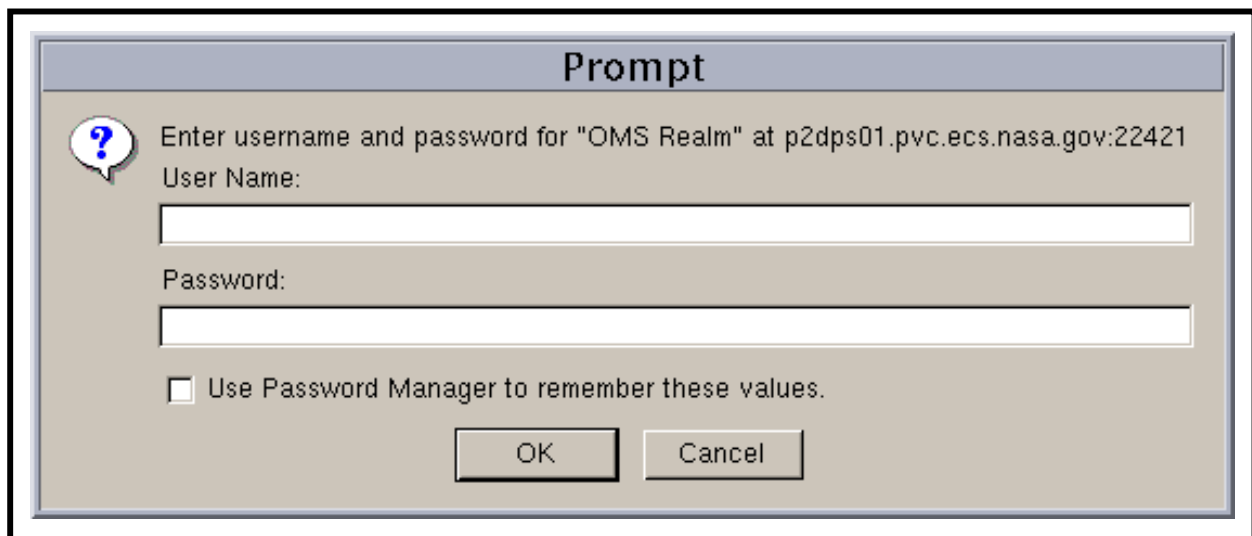

Figure 22. Security Login Prompt
- The security login **Prompt** (Figure 22) is displayed.